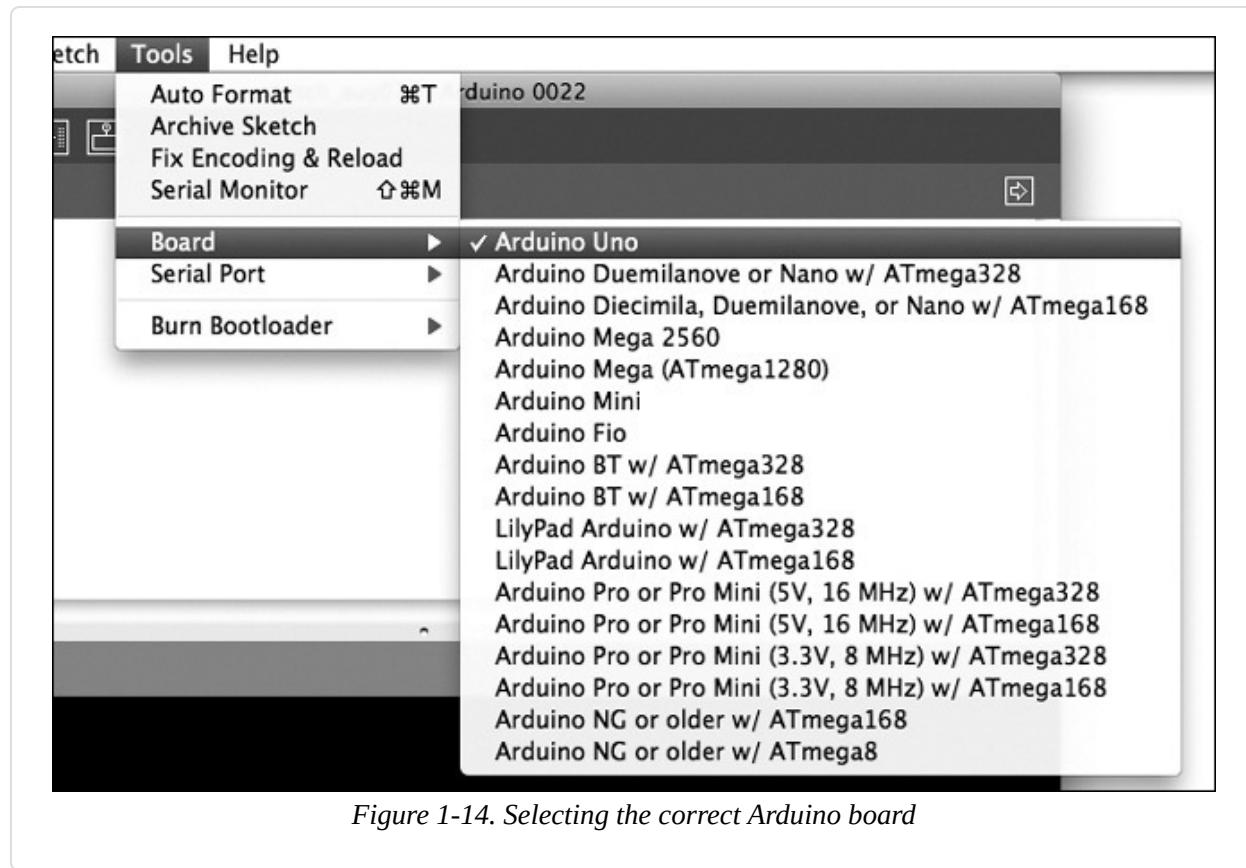

Figure 1-14. Selecting the correct Arduino board
4. The final step is to tell the IDE which Arduino board you have connected. This is crucial, since Arduino boards do differ. For example, if you have the most common board, the Uno, then select **Tools** ▶ **Board** ▶ **Arduino Uno**, as shown in Figure 1-14. The differences in Arduino boards are explained in more detail in Chapter 11.